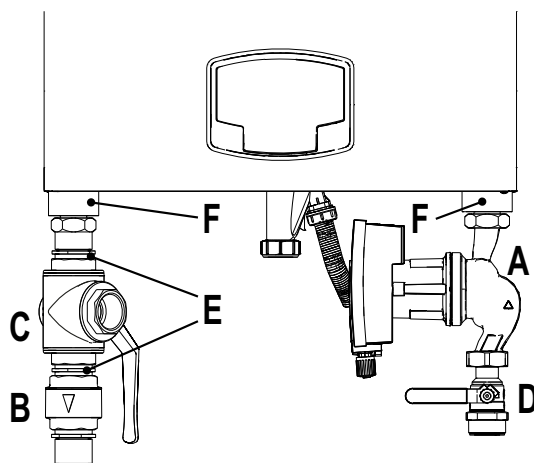

fig. 37- Boiler with installed kits
code 042070X0 - HIGH EFFICIENCY CIRCULATING PUMP KIT- 7m. (A - fig. 37)
code 042071X0 - HIGH EFFICIENCY CIRCULATING PUMP KIT- 10m. (A - fig. 37)
- 1 **NON-RETURN VALVE - Female 1"1/2** (B - fig. 37)
- 2 **3-Way FAUCET - Female 1"1/2** (C - fig. 37)
- 3 **FAUCET Male/Female 1"1/2** (D - fig. 37)
- 4 **CONNECTION NIPPLE 1"1/2** (E - fig. 37)
- 5 **Flow and Return connection pipes 1"1/2** (F - fig. 37)